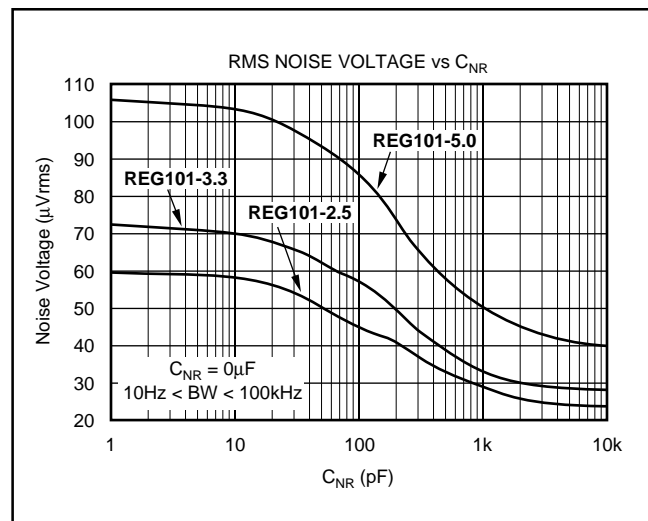
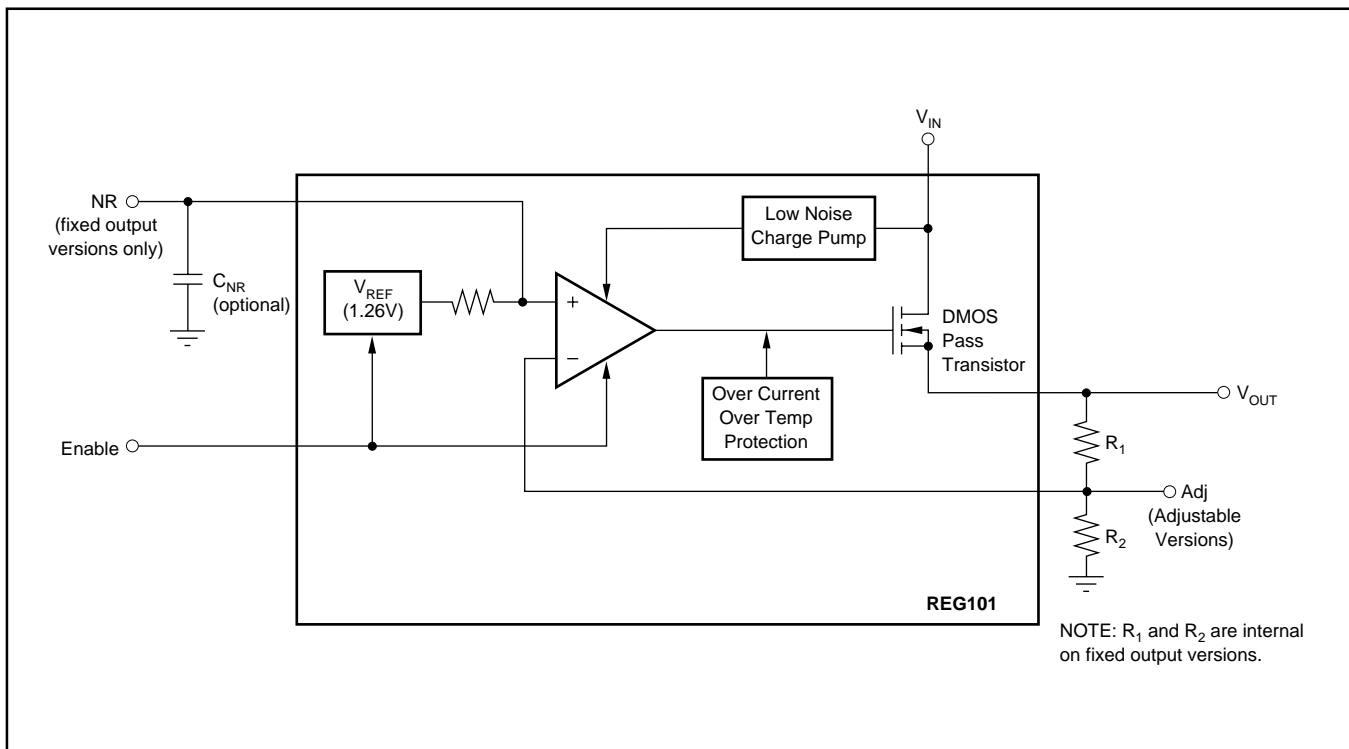

FIGURE 5. Output Noise vs Noise Reduction Capacitor.
FIGURE 4. Block Diagram.
Connecting a capacitor, C_{NR} , from the Noise Reduction (NR) pin to ground, as shown in Figure 4, forms a low-pass filter for the voltage reference. For $C_{NR} = 10\text{nF}$, the total noise in the 10Hz to 100kHz bandwidth is reduced by approximately a factor of 2.8 for $V_O = 3.3\text{V}$. This noise reduction effect is shown in Figure 5 and as “RMS Noise Voltage vs CNR” in the Typical Performance Curves section.